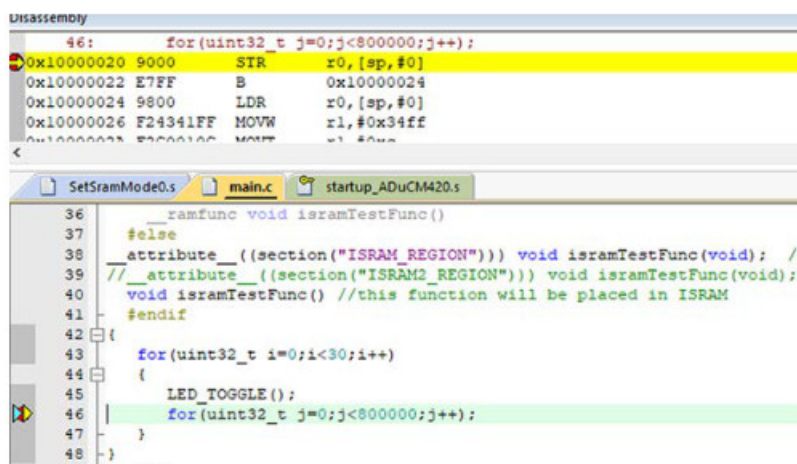

Figure 38. Flash Configuration Setup
- Running the settings in Figure 38 shows that the ISRAM is placed in debug mode via the Disassembly window.